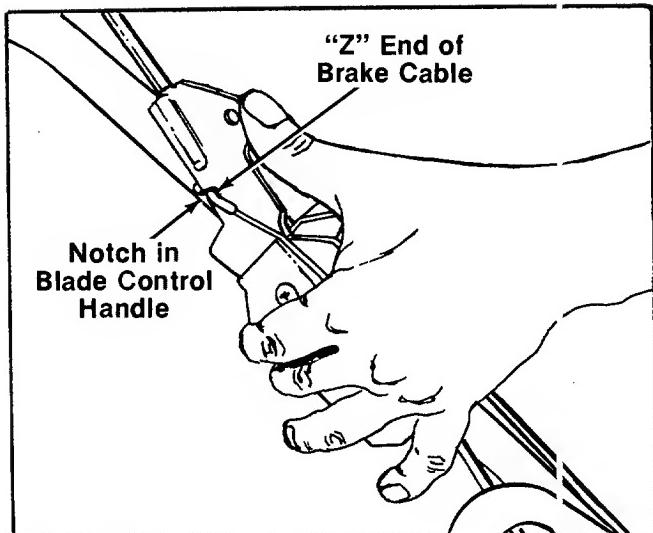

FIGURE 7.
a. Hook the "Z" end of the cable into notch provided in the blade control handle. See figure 7.